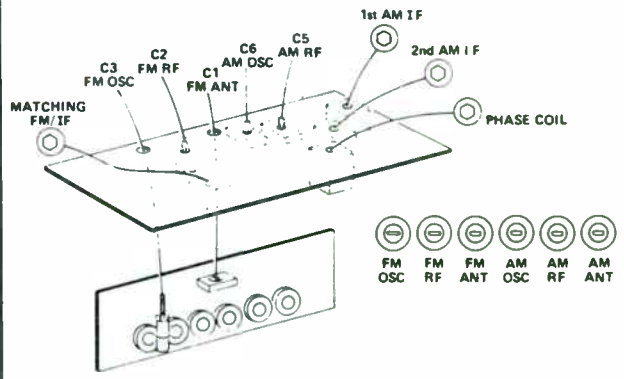

FIGURE 6
**USE FIGURE 6 CONNECT VTVM @ SPEAKERS**